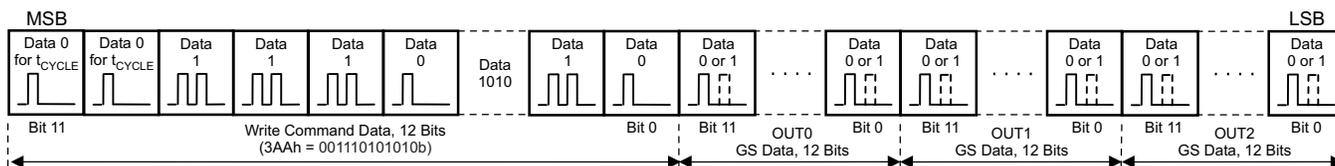

Figure 18. 48-Bit Data Packet Configuration for One TLC5973
The 12-bit write command and 36-bit grayscale (GS) data for OUT0 to OUT2 (for a total of 48 bits of data) must be written to the device. Figure 18 shows the 48-bit data packet configuration. When multiple devices are cascaded (as shown in Figure 19),  $N$  times the packet must be written into each TLC5973 in order to control all devices. There is no limit on how many devices can be cascaded, as long as proper VCC voltage is supplied. The packet for all devices must be written again whenever any GS data changes.